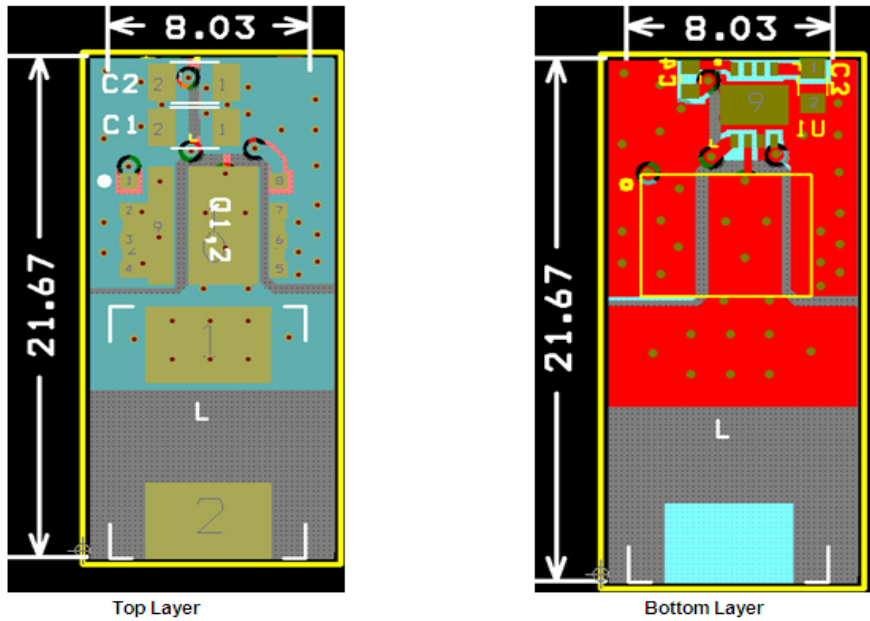

Figure 31. Recommended PCB Layout
2. The PHASE copper trace serves two purposes; In addition to being the current path from the Power Stage package to the output inductor (L), it also serves as heat sink for the lower FET in the Power Stage package. The trace should be short and wide enough to present a low resistance path for the high current flow between the Power Stage and the inductor. This is done to minimize conduction losses and limit temperature rise. Please note that the PHASE node is a high voltage and high frequency switching node with high noise potential. Care should be taken to minimize coupling to adjacent traces. The reference layout in Figure 31 shows a good balance between the thermal and electrical performance of Power Stage.
- loss due to copper trace resistance. A shorter and wider PHASE trace to the inductor reduces the conduction loss. Preferably the Power Stage should be directly in line (as shown in Figure 31) with the inductor for space savings and compactness.